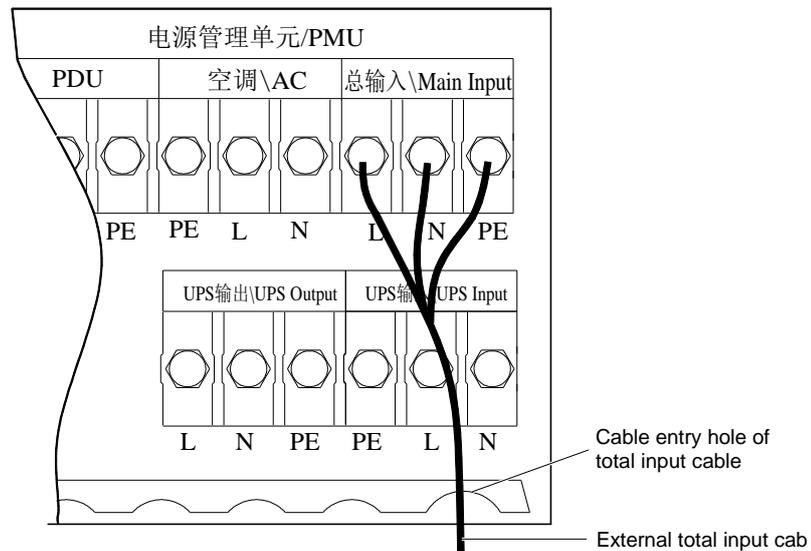

Figure 3-27 Connecting total input cable
2. Open the cover plate on the back of the PMU, connect the made cable to the total input position on the PMU connecting terminal block, as shown in Figure 3-27.